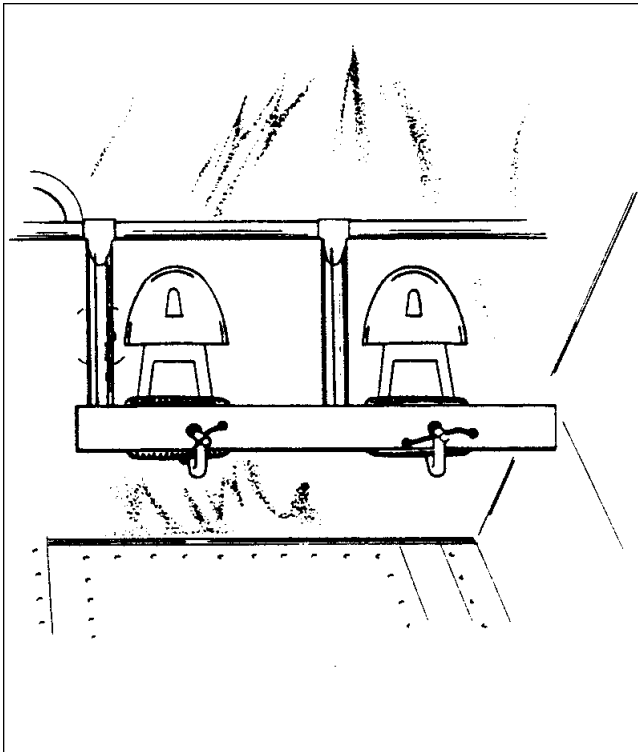

Figure 7-3. Clamping Rudder Pedals in Neutral Position
- g. Clamp the rudder pedals together to align them in a lateral position. (Refer to Figure 7-3.) The rudder pedals are tilted  $14^{\circ} \pm 3^{\circ} - 1^{\circ}$  aft of vertical when in their neutral position.